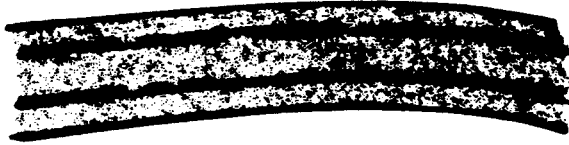

Figure 4-1. Belt Wear Due to Normal Life
1. If a belt fails after an extended period of use, failure is probably due to normal wear. Replacement of the belt is all that is necessary. See Figure 4-1.